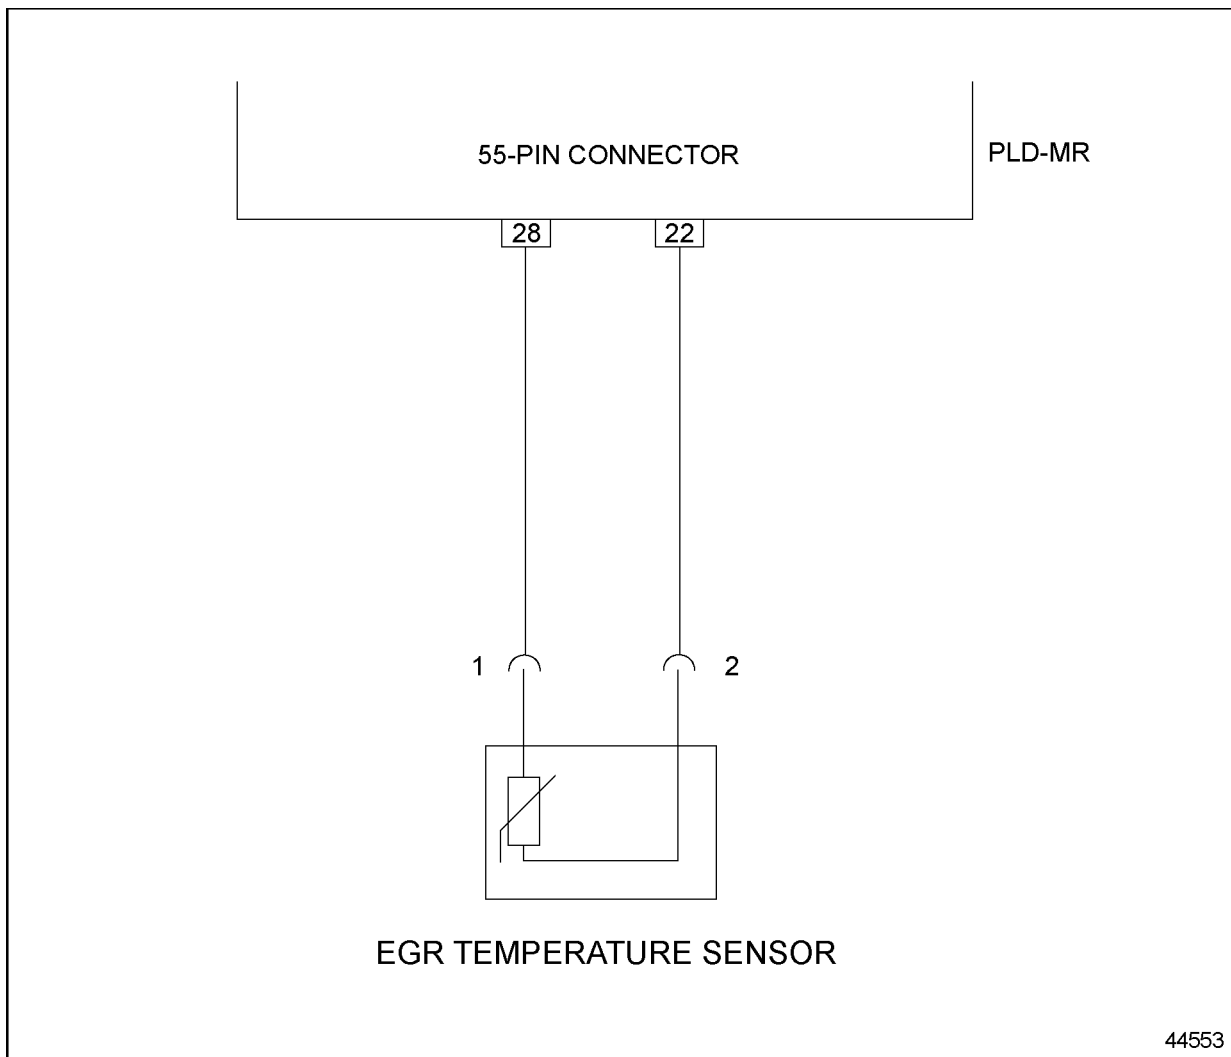

Figure 25-4 EGR Temperature Sensor Pins and 55-Pin Connector Wires
2. Bridge pins 1 and 2 on the EGR temperature sensor and check for active fault codes. See Figure 25-4.
3. Bridge pin 1 of the EGR temperature sensor to ground and check for active fault codes. See Figure 25-4.
4. Measure the resistance between pin 22 of the 55-pin connector and pin 2 of the EGR temperature sensor. See Figure 25-4.